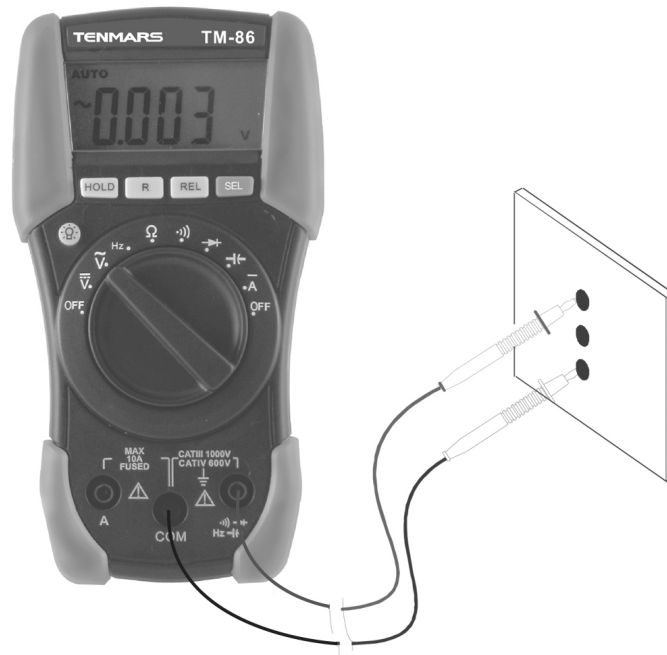

Fig. 3: Using the instrument for AC Voltage measurement
3. Insert the test leads into the jacks, the red plug into $V\Omega\rightarrow$ \rightarrow Cx/Hz jack and black plug into **COM** jack (see Fig. 3).